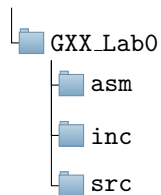

Figure 1: The project folder structure
1. First, create a new folder named *GXX\_Lab0*, where GXX is your group number. Within this folder, create three folders: *asm*, *src* and *inc*. The final folder structure is shown in Figure 1. All C code files (.c) will be saved in *src*, assembly files (.s) in *asm*, and header files (.h) in *inc*.